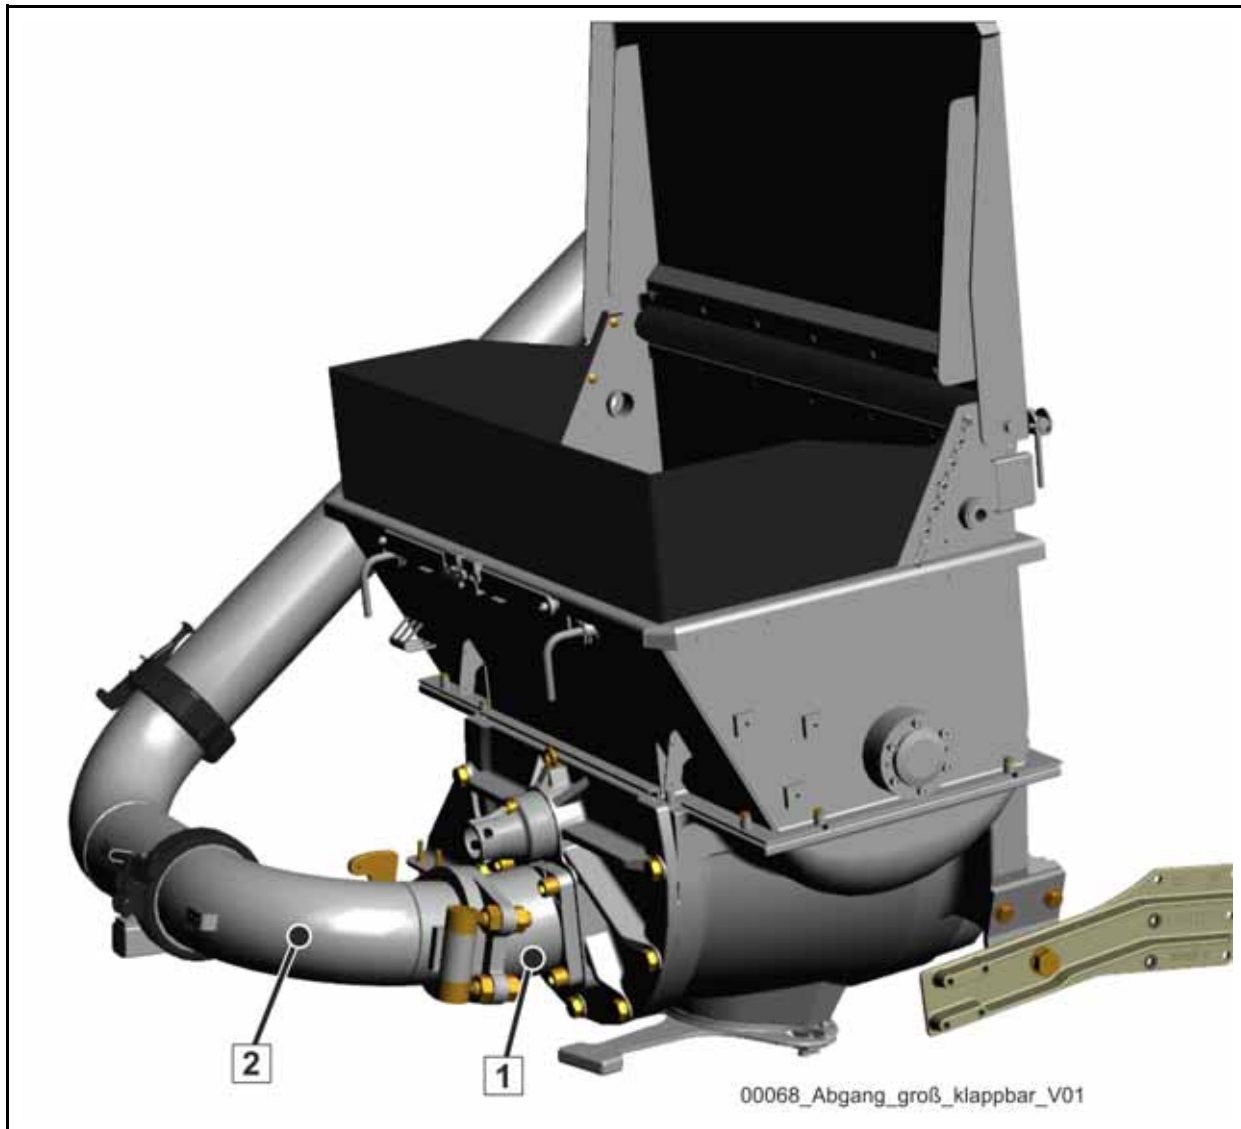

Fig. 151 Large outlet, foldable
The larger outlet 180/180/150 also has a 14-degree elbow mounted on the rock valve, see (1) (**Fig. 151**).